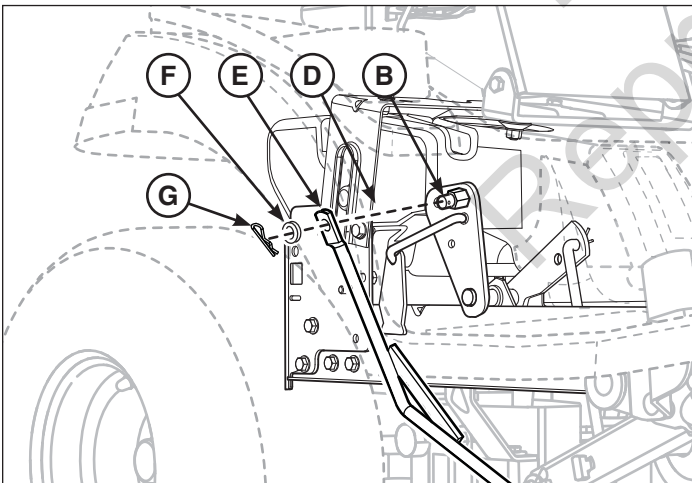

Figure 12
3. Slide the lift pivot (D, Figure 12), lift rod assembly (E), and washer (F) onto cap screw (B) and secure large hair pin (G).